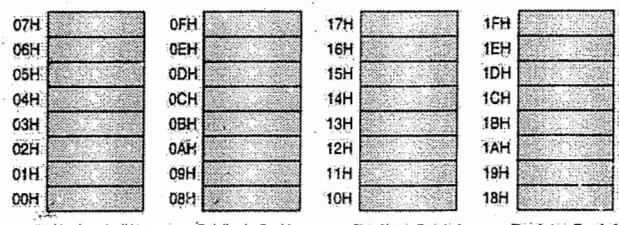

Fig. 1.18.3 : 8051 register banks and their RAM addresses
- The second bank of registers begins at 08H – 0FH. The third bank of R0 – R7 begins at 10H – 17H and finally the fourth bank of R0 – R7 at RAM locations 18H – 1FH as shown in Fig. 1.18.3.